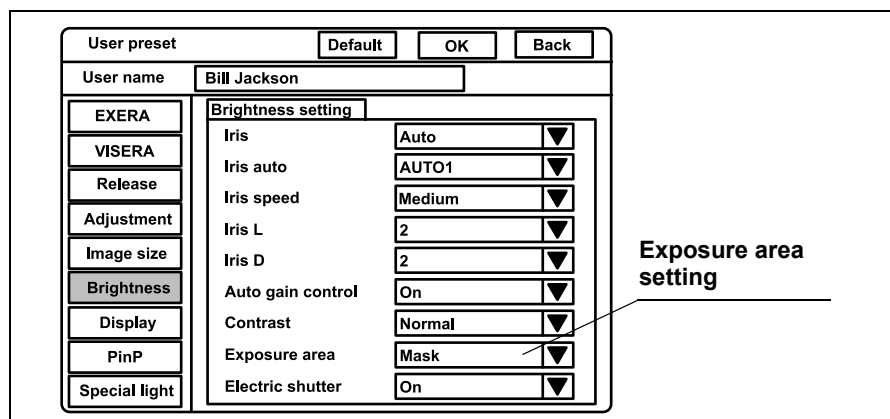

Figure 9.29
1. Click “ ▼ ” of “Exposure area” (see Figure 9.29). The exposure areas appear in the pull-down menu.